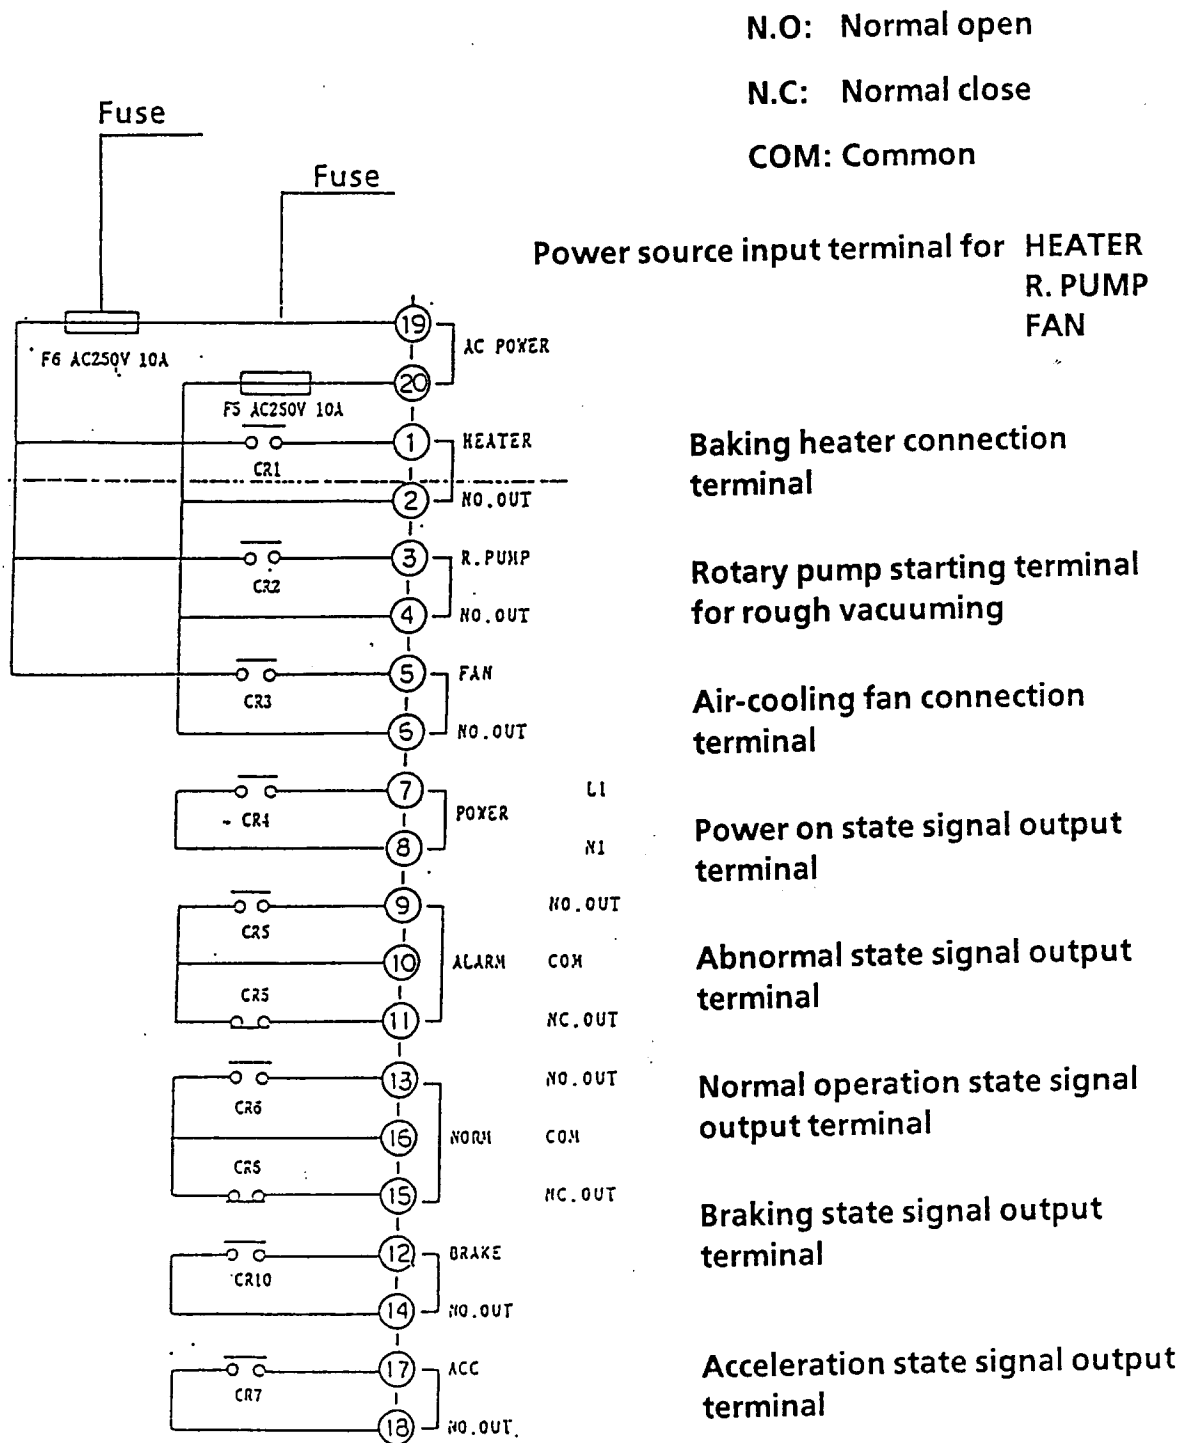

Fig. 12 I/O TB2 Terminal table for remote output signal
A terminal table for remote output signal. Use the table, referring to Table 6 and Fig. 12.
- Relays CR1 to CR4, CR7 and CR10 in Fig. 12 are G6C-1117P-US DC12V (manufactured by Tateishi Electric Co.). Relays CR5, CR6 are G2R-117P-V (DC12V)